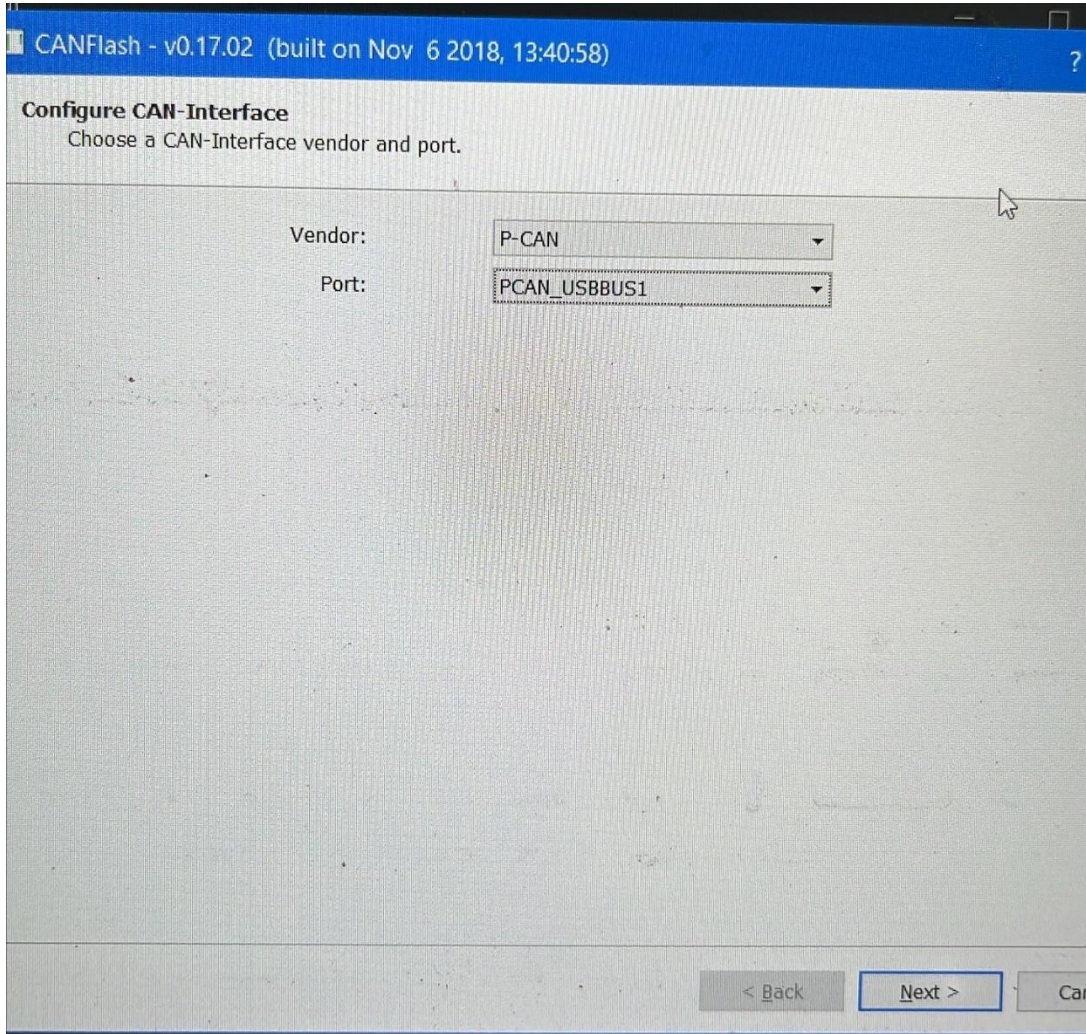

Figure 22: CANFlash PCAN settings
67. Once CANFlash is open select **P-CAN** under the Vendor drop-down menu. Select **PCAN_USBBUS1** under the Port drop-down menu (see figure 22). It's important to ensure the physical connection to the laptop matches the same port as dictated by the CANFlash setup. Click **Next** when complete.